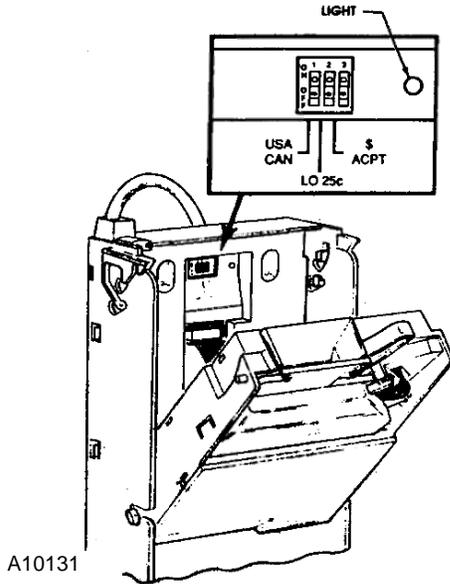

FIGURE 5. Option switches
- B. Remove the coin acceptor portion of the coin changer. See Figure 5.